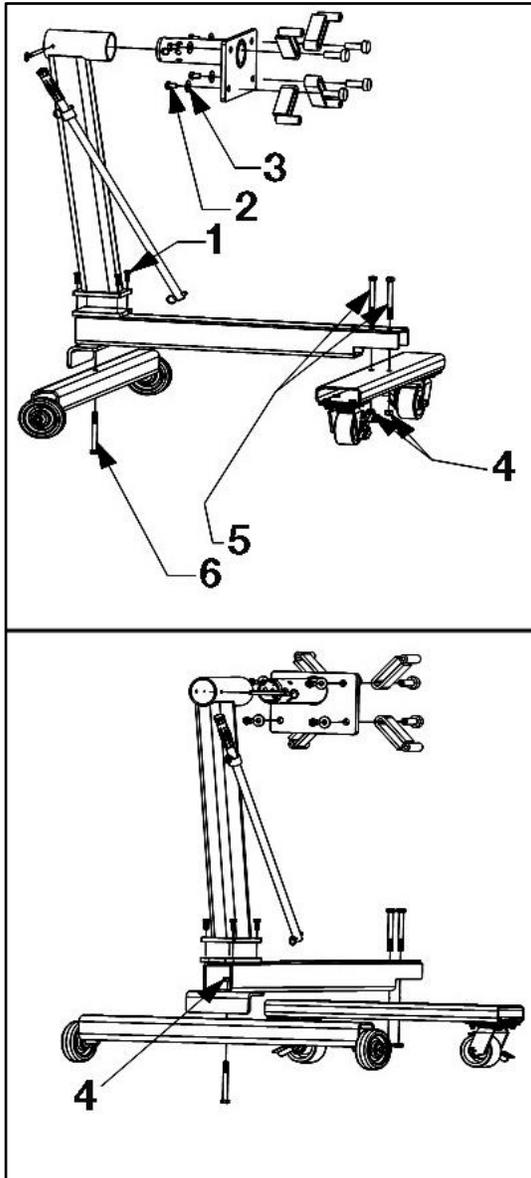

Fig. 3: Rear subassembly
- 1 1" 3/8-24UNF Grade 5 Capscrew (4)
- 2 3/4" 1/2-13UNC Grade 8 Capscrew (4)
- 3 1/2" Grade 9 USS Flat Washer (4)
1. Use (1) 1/2-13UNC grade 5 capscrew 4-1/2" long to fasten the Rear Caster Tube to the Main Tube. Use (2) 1/2-13UNC grade 5 capscrew 5" long to fasten the Front Caster Tube to the Main Tube. Torque hardware to 60 ft-lbs minimum (Fig. 3).
2. Use (4) 3/8-24UNF grade 5 capscrews 1" long to fasten Post to Main Tube. Torque to 60 ft-lbs minimum.
4. Insert the Mounting Bracket Retention Pins into the Mounting Brackets and use (4) 1/2-13UNC grade 8 capscrews 3/4" long and (4) 1/2" grade 9 USS flat washers to fasten them to the Mounting Plate.